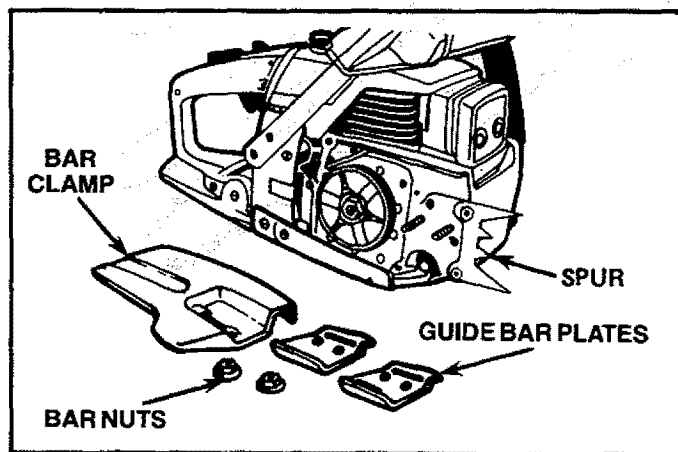

Figure 2
2. Align the spur over the two holes on the bar clamp side of the saw. Figure 2.